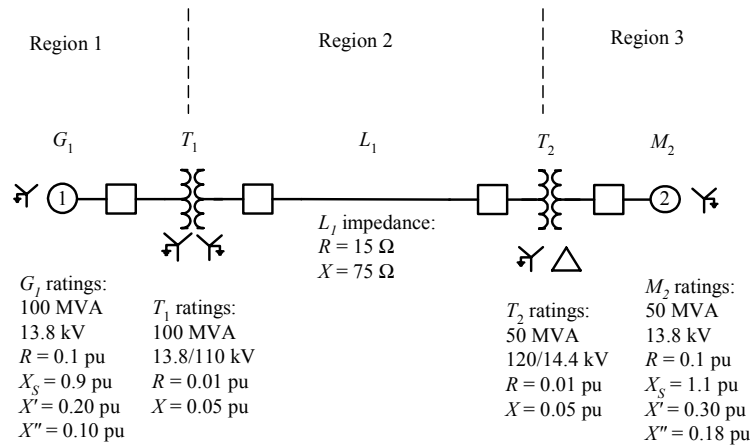

Figure P12-2 One-line diagram of the power system in Problem 12-7.
- 12-7.** Assume that a symmetrical three-phase fault occurs on the high-voltage side of transformer T_2 in the power system shown in Figure P12-2. Make the assumption that the generator is operating at rated voltage, and that the power system is initially unloaded.